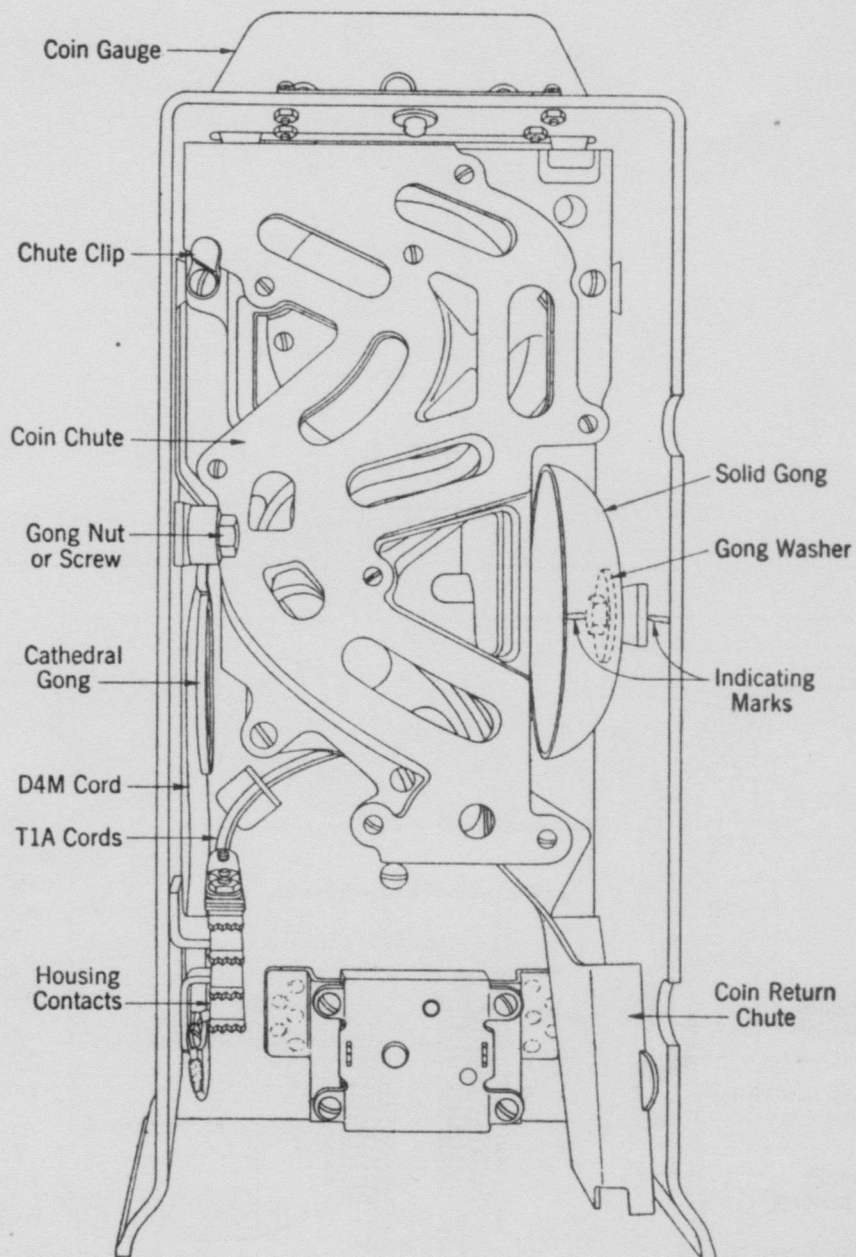

Fig. 2.
- 2.03 See that chute clip is installed on all chutes except on P-242923 and P-243570 chutes. (See Fig. 2.)